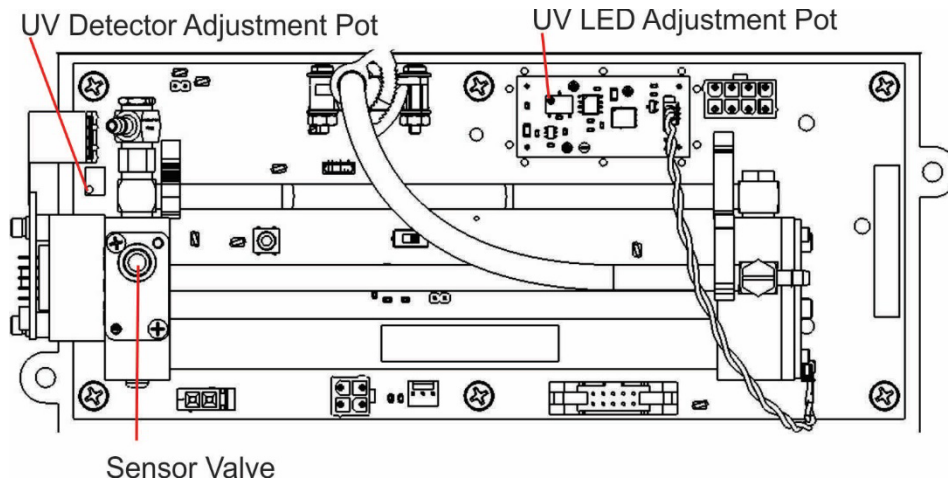

Figure 7-3. Sensor Valve Location
6. Remove the two (2) mounting screws using a #2 Phillips screwdriver. See Figure 7-3. Note that there are four screw heads visible on the top of the valve body, only two (2) of these should be removed.
4. Locate the UV Detector adjustment pot on the forward end of the sensor module (see Figure 7-3). While observing the REF value on the display, slowly turn the pot to adjust the value. The target adjustment range is as high as possible within the range of 800 – 1050 mV.
5. If the required REF value cannot be achieved by adjusting the UV Detector pot alone, the UV LED intensity can be adjusted using the UV LED adjustment pot (Figure 7-3). Slowly turn the pot and observe the REF value on the display. The target adjustment range is as high as possible within the range of 800-1050 mV.